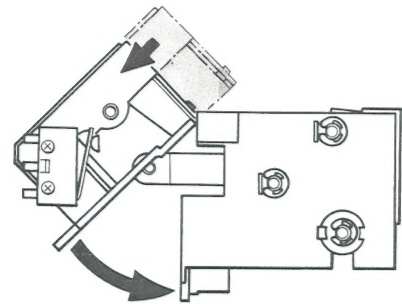

Fig. 20
- 5) Insert the mechanism frame from above as shown in the illustration, and temporarily secure it. (See figure 20)